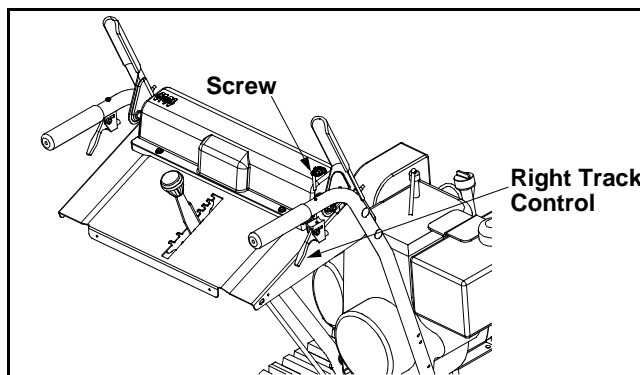

Figure 9
- Place the right track control in position underneath the right handle. Secure with screw previously removed. See Figure 9.